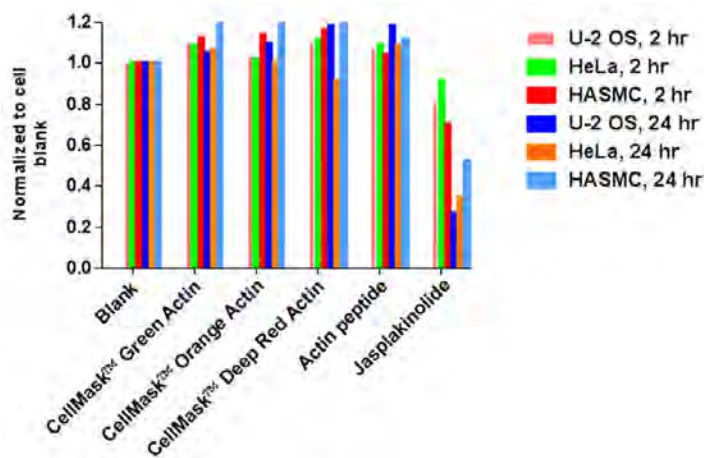
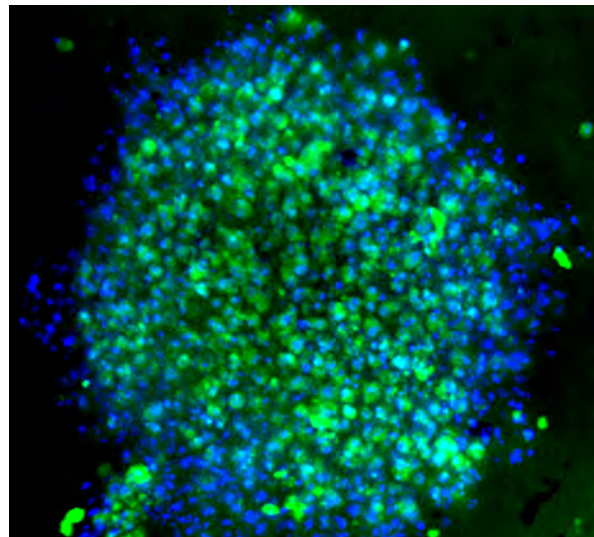

Fig. 1 Cytotoxicity histogram.
Fig. 11 Labeling of HeLa spheroid with CellMask™ Green Actin Tracking Stain.
The Invitrogen™ CellMask™ Actin Tracking Stains provide fluorescent staining of polymerized/Filamentous Actin (F-Actin) in live cells or fixed cells. The stains are designed to readily permeate live cells, which provides uniform and specific staining of F-Actin. Live cells stained with CellMask™ Actin Tracking Stains can be fixed for multiplexability in immunofluorescence (IF)/immunocytochemistry (ICC)/immunohistochemistry (IHC) protocols. For flexibility in experimental designs, CellMask™ Actin Tracking Stains are provided in three colors (Figure 1).
CellMask™ Actin Tracking Stains detect F-Actin without staining monomeric globular Actins (G-Actin) by using a targeting molecule that closely resembles Jasplakinolide. While easily passing through live cell membranes, they are also efficiently retained within the cells after loading. As shown in Figure 1, various cell lines incubated with CellMask™ Actin Tracking Stains show no detectable effects on viability after 24 hours of incubation. The stains can detect the F-Actin in live cells (Figures 2-4); paraformaldehyde-fixed cells or tissue, which can be multiplexed with antibody detection (Figures 5-7); and cells used in 3D cell culture for 3D imaging (Figure 11).